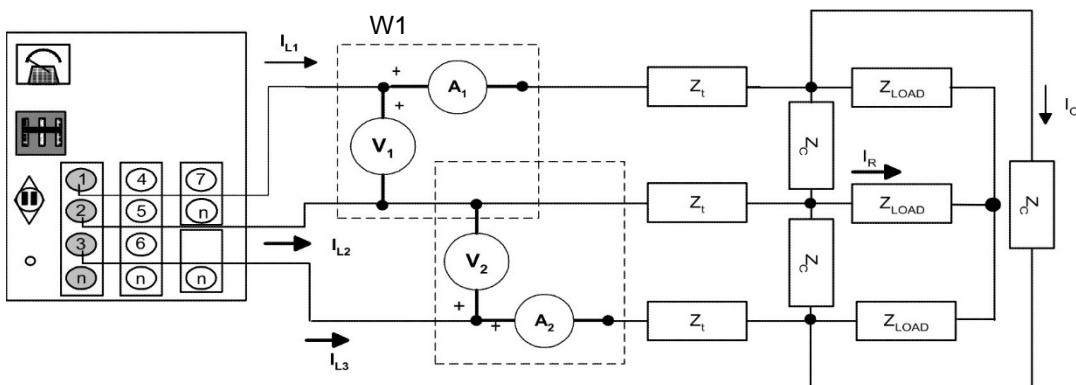

FIGURE 3.6
- 5) Now, connect an inductive load ( $Z_L = 100\Omega$ ) in series with the parallel delta-wye load as shown in Figure 3.6. For this connection V line to line **50Vac**: